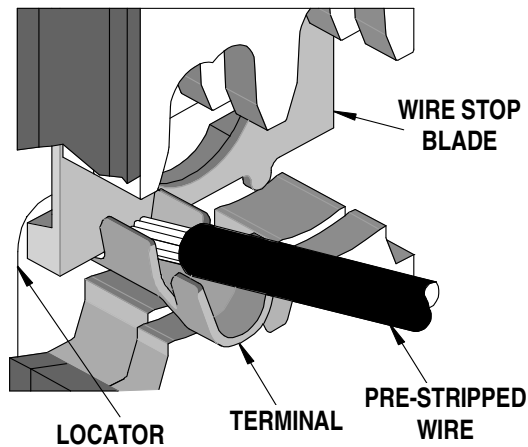
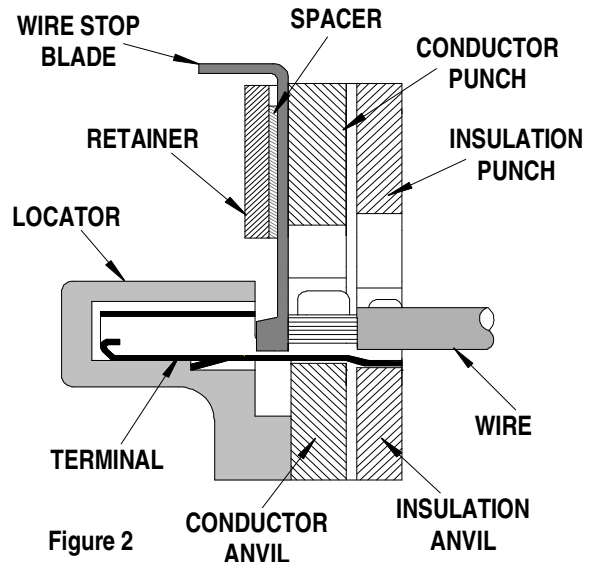

Figure 1
Figure 2
4. Slide the pre-stripped wire into the terminal; make sure to aim the wire brush towards the tip point on the wire stop blade (See Figure 1). Align the wire so that it is parallel and sitting into the terminal. Maintain a light and constant pressure on the wire that is seated in the terminal at all times. (Do not let go of the wire.) Be sure to hold the wire and terminal in place until the terminal is fully crimped. See Figure 2.